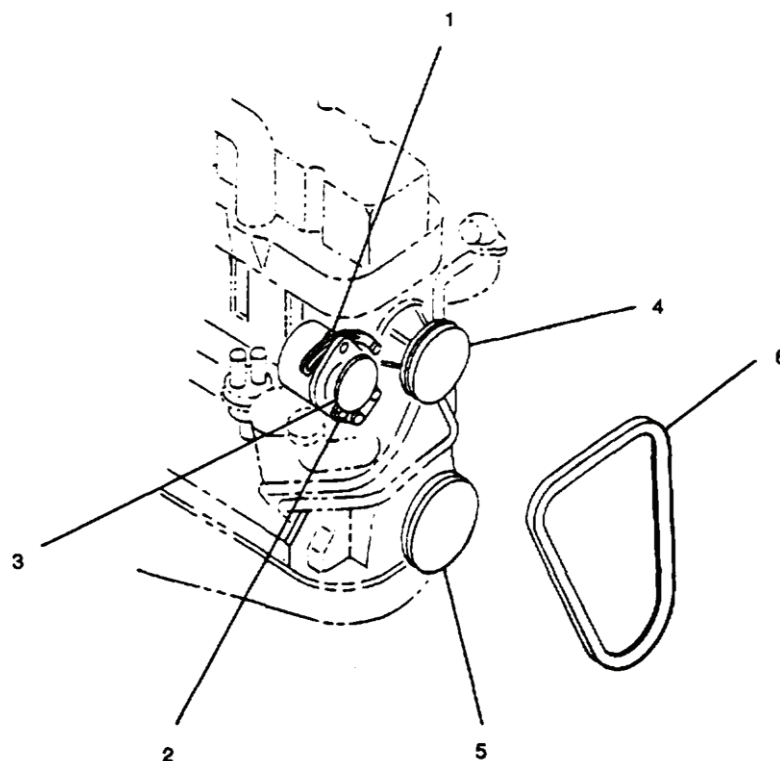

Figure 1. Fan Belt.
WP 0076, Figure 1, Items: 14, 34 & 42
4. Remove bolts (WP 0076, Figure 1, Item 14), washers (16), and lockwashers (15); allow shroud (17) to rest on fan (34). Discard lockwashers (15).
5. Remove bolts (32), lockwashers (33), fan (34), spacer (35) and shroud (17) from generator set. Discard
3. Inspect fan (WP 0076, Figure 1, Item 34) and blades for cracks, bends, loose rivets, or other damage.
4. Inspect seals (42), supports (40 and 41), and stiffeners (38 and 39) for damage.
1. Install seals (WP 0076, Figure 1, Item 42), supports (40 and 41), and stiffeners (38 and 39) on each side of shroud (17) with screws (37) and nuts (36).
2. Position fan (34), spacer (35), and shroud (17) in generator set and secure with bolts (32) and new lockwashers (33). Torque bolts (32) to 24 ft•lbs (32.5 N•m).
3. Install fan shroud (17) with bolts (14), new lockwashers (15), and washers (16).
ReferencesWP 0076, Figure 1, Item 34
3. Inspect fan belt (Figure 1, Item 6) for frays, cracks, oil soaking, and other damage.
3. Check fan belt (Figure 1, Item 6) for 1/2 inch (1.27 cm) deflection midway between alternator pulley (3) and crankshaft pulley (5).
4. If fan belt needs adjustment, loosen alternator mounting bolt (1) and nut (2).
4. Loosen alternator mounting bolt (Figure 1, Item 1) and nut (2).
5. Pivot alternator to relieve tension on fan belt (6) and remove belt (6) from alternator pulley (3), fan pulley (4), and crankshaft pulley (5).
6. Slip belt (6) over fan (WP 0076, Figure 1, Item 34) and remove belt from generator set.
1. Slip fan belt (Figure 1, Item 6) over fan (WP 0076, Figure 1, Item 34).
2. Install belt (Figure 1, Item 6) onto alternator pulley (3), fan pulley (4), and crankshaft pulley (5).
3. Adjust tension on fan belt (6) (Testing and Adjustment).